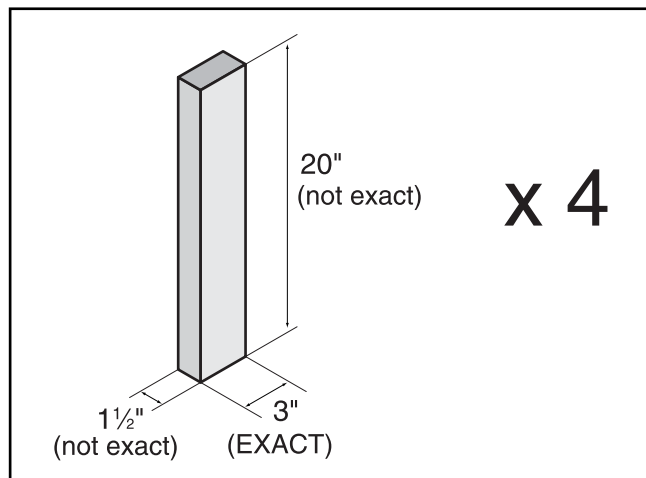

Figure 44. Precision gauge block dimensions.
4. Using 2x4's, make four precision gauge blocks to the specifications shown in **Figure 44**.